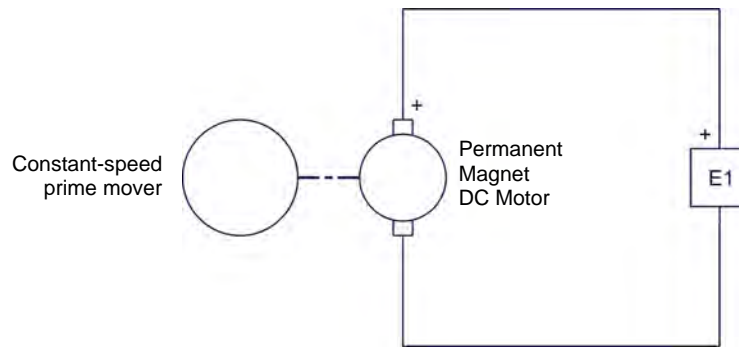

Figure 31. Setup used to plot the voltage-versus-speed characteristic of a permanent magnet dc motor operating as a generator.
13. Connect the equipment as shown in Figure 31. In this circuit, the **Permanent Magnet DC Motor** is driven, via a belt, by the motor in the **Four-Quadrant Dynamometer/Power Supply**. **E1** is a voltage input of the **Data Acquisition and Control Interface**.